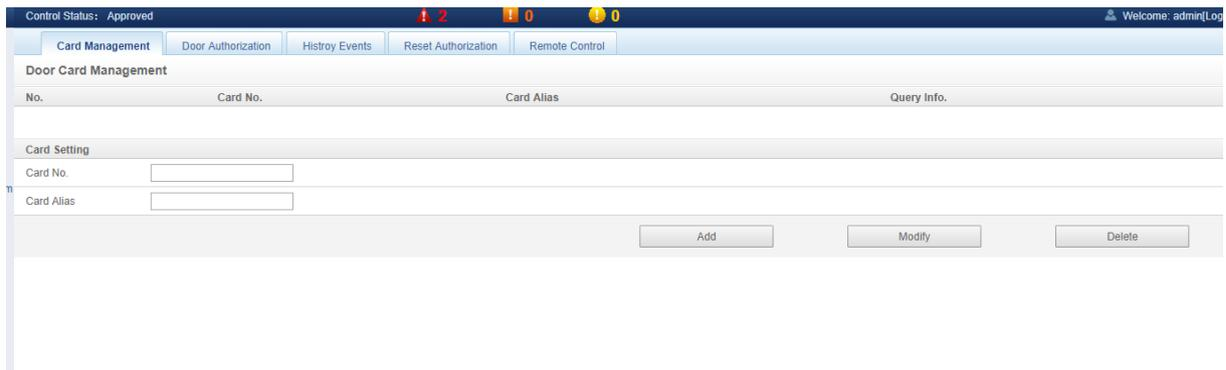

Figure 3-58 Card management
a) Click the **Door Access** submenu under the **Safe Mgmt.** menu to pop up the **Card Management** page as shown in the Figure 3-58.